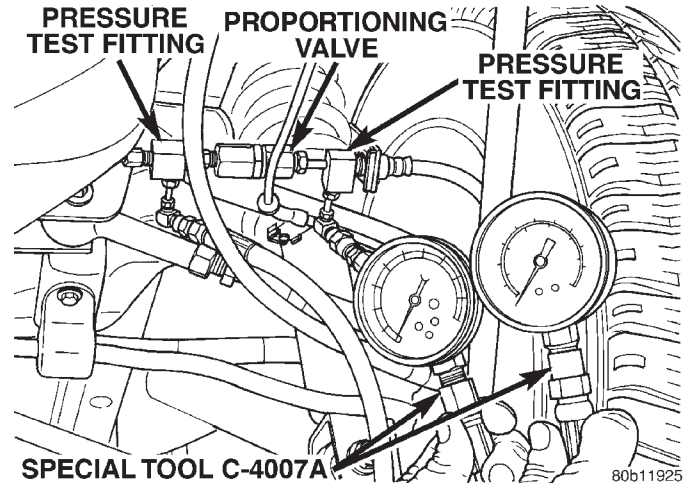

Fig. 19 Pressure Gauges Installed On Pressure Test Fittings
(6) Install a Pressure Gauge, Special Tool C-4007-A into each pressure test fitting (Fig. 19). Bleed air out of hose from pressure test fitting to pressure gauge, at pressure gauge to remove all trapped air.
(7) With the aid of a helper, apply pressure to the brake pedal until reading on proportioning valve inlet gauge, is at the pressure shown on the following